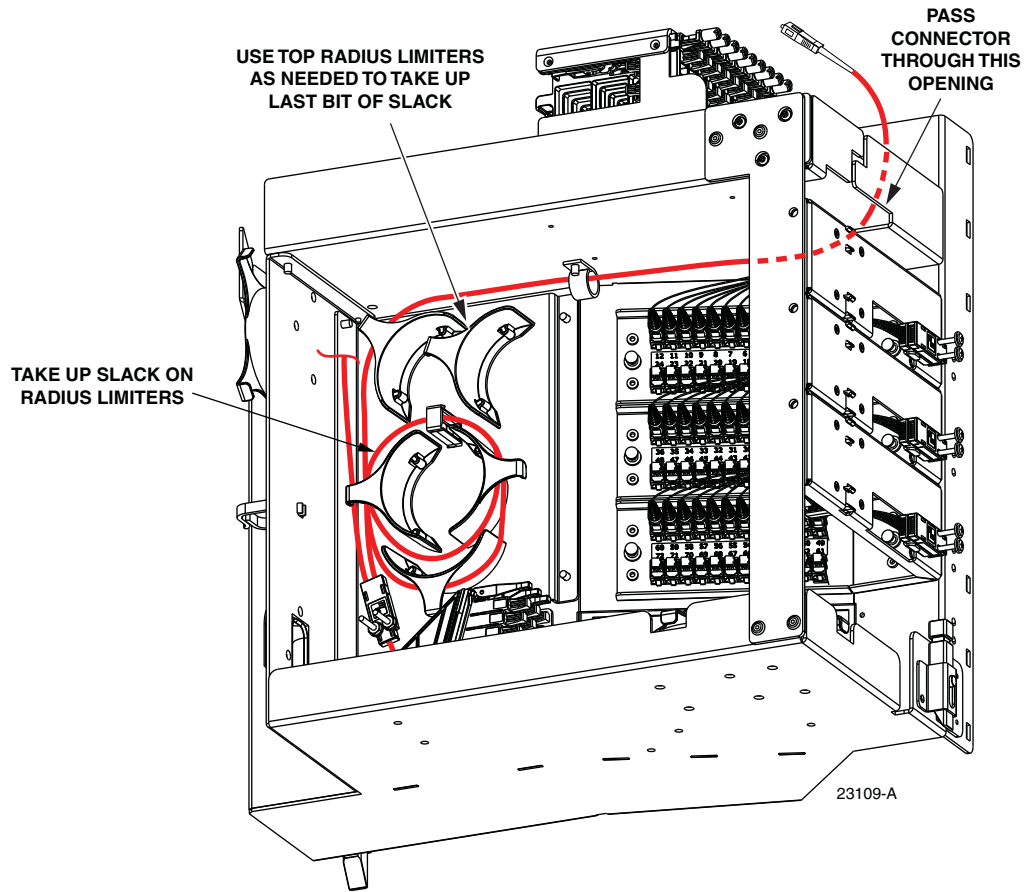

Figure 74. Re-Routing the Feeder Cable Fiber
7. When the feeder cable connector and fiber are free, pass the connector through the opening located behind the splitter compartment as shown in Figure 74.